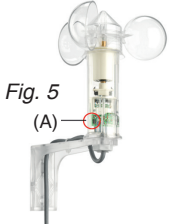

Fig. 5
- Hold magnet close to PROG POINT, the yellow LED will be lit up. See Fig. 5 as described in (A).